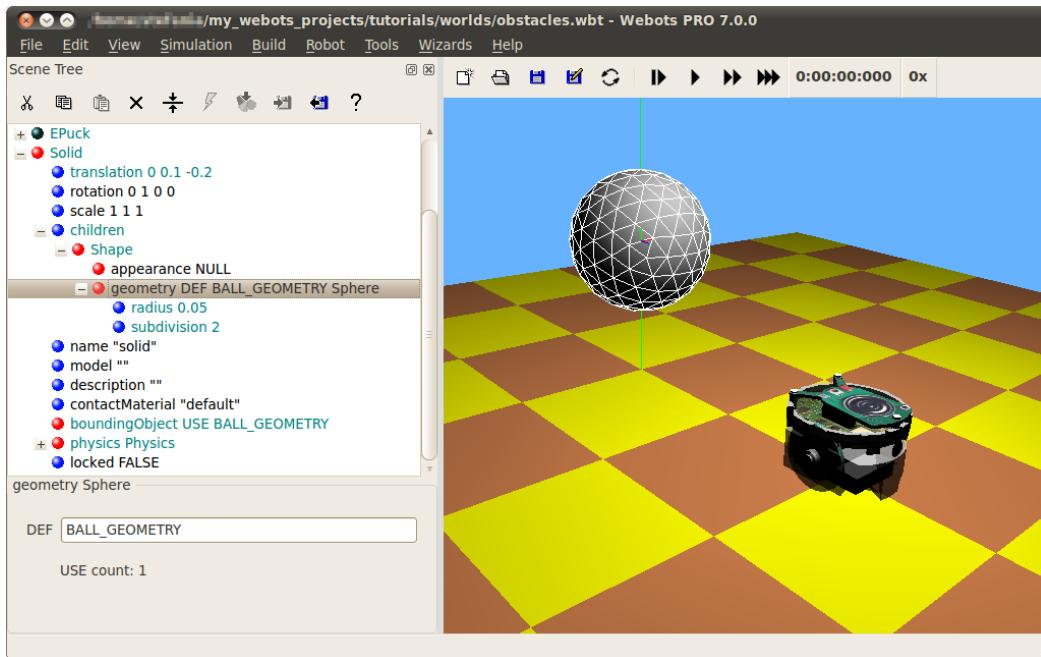

Figure 7.5: DEF-USE mechanism on the Sphere node called "BALL_GEOMETRY".
*Select the first Sphere node (the child of the Shape) in the scene tree view. The field editor of the scene tree view allows you to enter the DEF string. Enter "BALL_GEOMETRY". Select the boundingObject field (containing the second Sphere node), and delete it by using the **Reset to default** button. Then click on the **Add New** button, and select the USE > BALL_GEOMETRY in the dialog box. The result is shown in figure 7.5.*